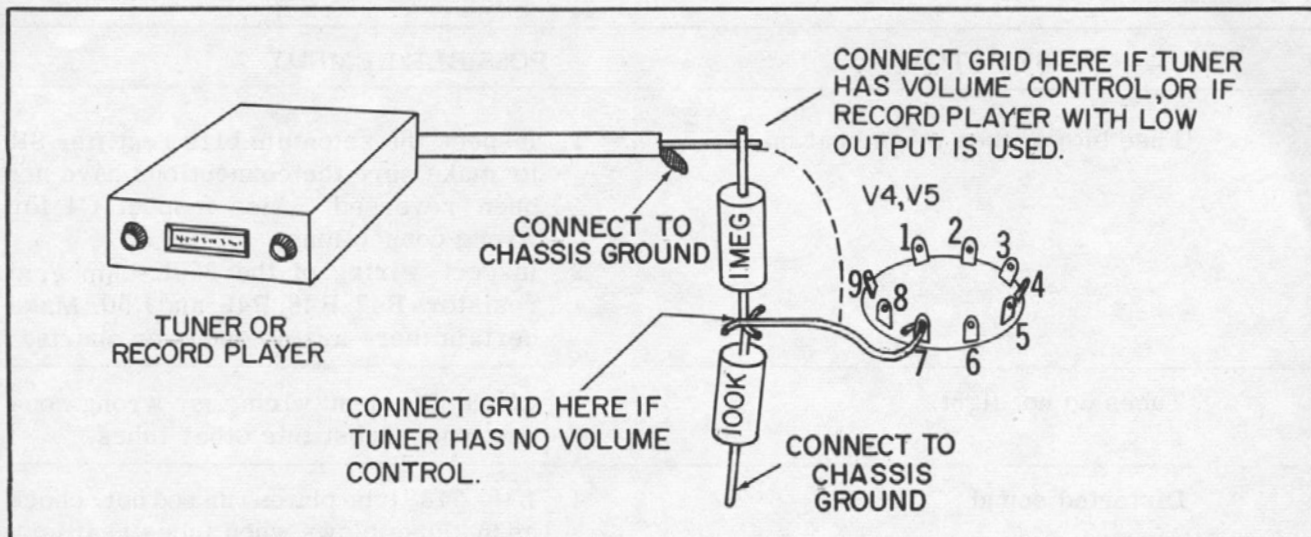

Fig. 18.
- () 149. From the remaining supply of 1/2-watt carbon resistors, select a 1-meg and a 100K-ohm resistor. Temporarily connect these two resistors in series, and connect the free end of the 100K-ohm resistor to the chassis ("ground"). See Fig. 18.
- () 150. Connect the output of a tuner, or the output of a record player in which a crystal or ceramic cartridge is used, between the free end of the 1-meg resistor and "ground". See Fig. 18. Connect the grid (terminal #7) of V4 to either the junction of the two resistors or the "high" end of the 1-meg resistor, depending upon the signal source.
- () 154. Disconnect the two resistors and the tuner or record player output from terminal #7 on V4, and connect them to terminal #7 on V5. See Fig. 18.